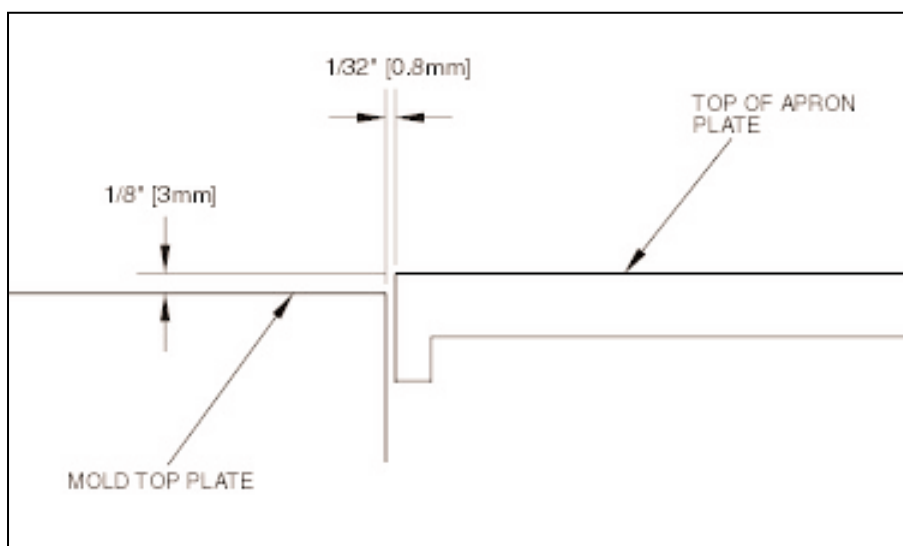

Figure 5.25 APRON PLATE CLEARANCE.
- 5.6.1 Adjust so the apron plate is 1/8" [3mm] above the mold top plate (figure 5.25) with the machine at "first stop".